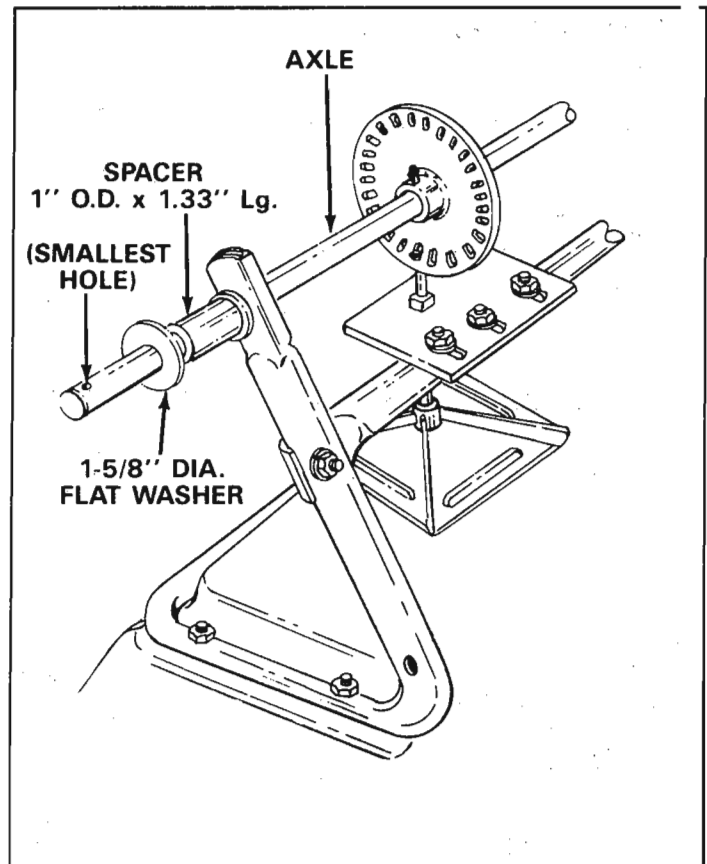

FIGURE 4
3. Assemble the 1" O.D. x 1.33" long spacer and one 1-5/8" diameter flat washer to end of axle, having the smallest hole. See figure 4.